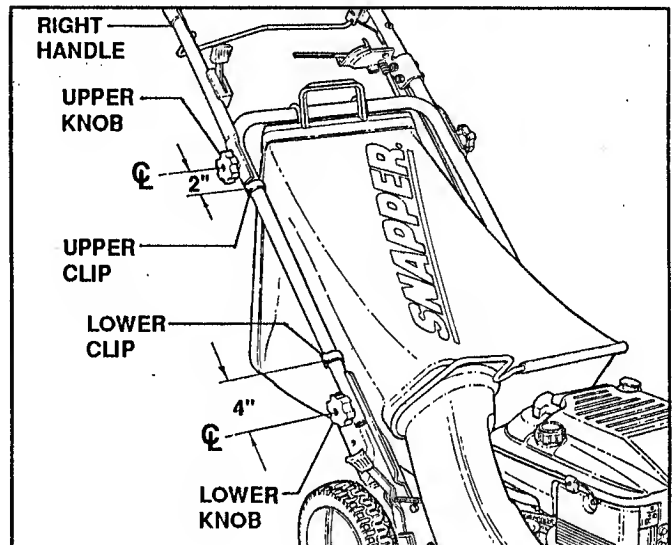

FIGURE 3.10
- D. If the wheel drive control fails to return quickly to the "OFF" position when released, check for binding at the cable clips located on the side of the right handle. The upper clip should be located 2" below the center of the upper knob; the lower clip should be 4" above the center of the lower knob. The cable should slide freely with the clips installed at these locations. See Figure 3.10.